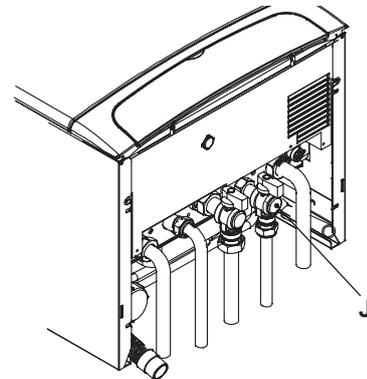

Figure 2.10
- 1 Close the d.c.w. inlet cock J (Figure 2.10).